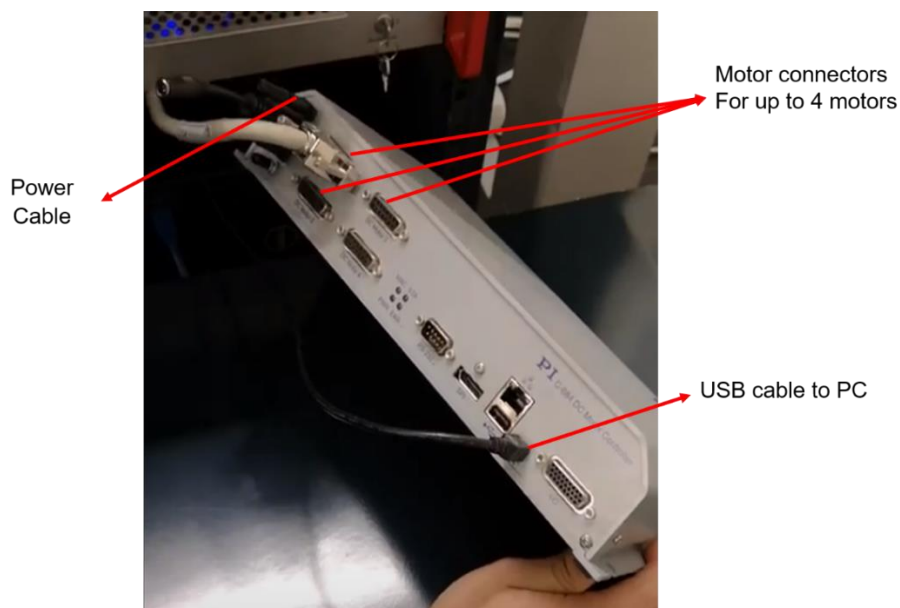

Figure 23: Photography of the DC Motors controller. Only one motor is connected (DC motor 1), yet this controller can allocate up to four motors.
**Caution!** Before assembling the PI motorized stages (item 82), connect the elongated cables to the Motor controller (see Fig. 23), and move the motor to one end of its range by the software to reach the screw holes.